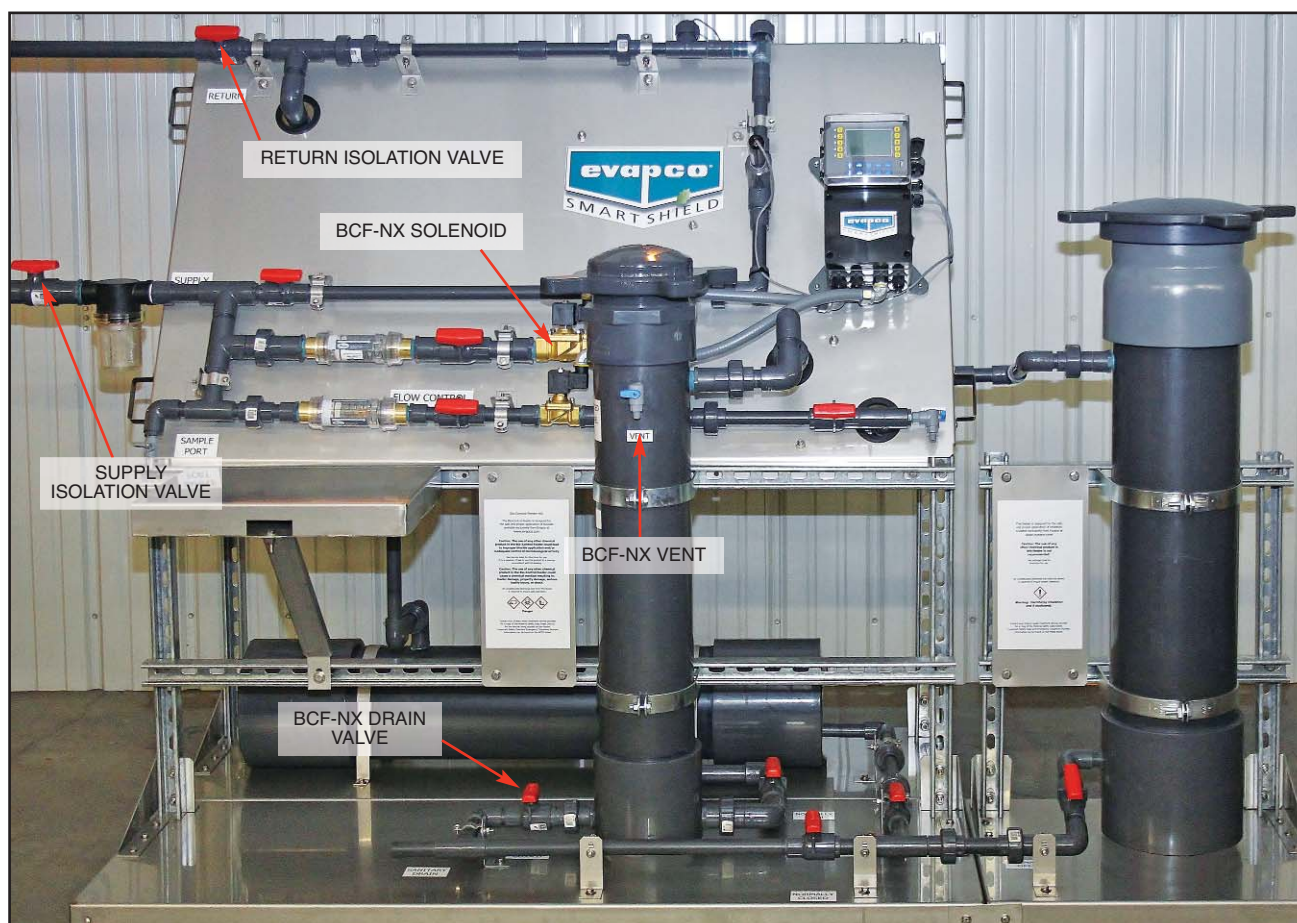

Figure 22 – Loading the **BCF-NX**
- 7.3.3 Close the Supply and Return Isolation Valves on the **MRF** system. See Figure 22.
- 7.3.4 Open the **BCF-NX** Drain Valve and then the Vent to drain the feeder to sanitary drain. Note that it may not be necessary to completely drain the feeder for reloading. See Figure 22.